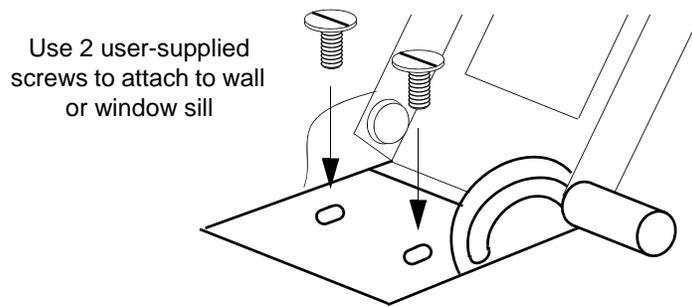

Figure 3-3 Attaching the Mechanical Window Antenna
1.	At the window chosen in Chapter 2, Engineering and Ordering, attach the base of the mechanical window antenna to the chosen location (sill, wall, etc.) using user-supplied screws (Figure 3-3).